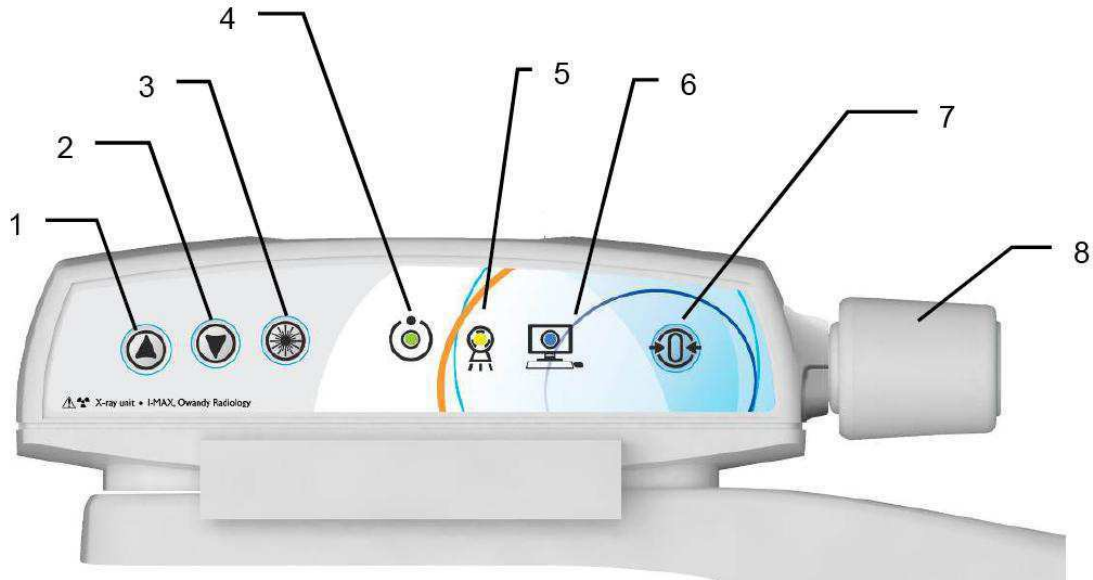

Figure 18 - Keyboard
When the "CHECK" function is complete, the green LED (3 - Figure 18) on the equipment keyboard starts blinking.
2. Run the "GUI" on the PC and wait for the connection between the PC and the equipment; this status is indicated by the blue LED on the equipment (5 - Figure 18) and on the GUI lighting up.
4. Press the button ">O<" on the keyboard to run the chin rest automatic positioning accordingly with the current exam selection. The white LED (8 - Figure 18) will starts blinking (system waiting for a user's input).
Ready for X-ray status is signalled by the green LED on the equipment (3 - Figure 18) and on the GUI lighting up.
Figure 18 shows a general view of I-Max 3D control Interface.
I-Max 3D assumes that the digital sensor is ready: if this is not the case, the blue light indicator of "Computer connection" status (5 - Figure 18) start blinking slowly. Refer to the Digital Acquisition System Manual to correct the situation. To reset the message on I-Max 3D, press "OK" on the GUI and follow the instruction provided (if on the equipment keyboard the green light indicator of "Machine Ready" status is blinking, press >0< to perform the axis reset).